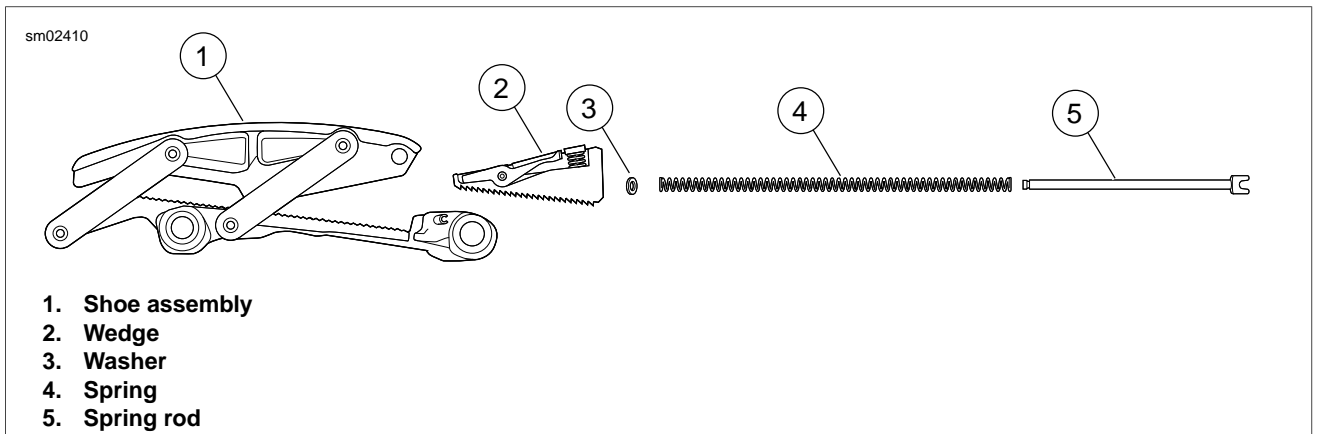

Figure 6-14. Primary Chain Tensioner Assembly
10. See Figure 6-14. Although primary chain tensioner is sold as an assembly, tensioner parts can be disassembled. If primary chain tensioner becomes disassembled, assemble in order shown.